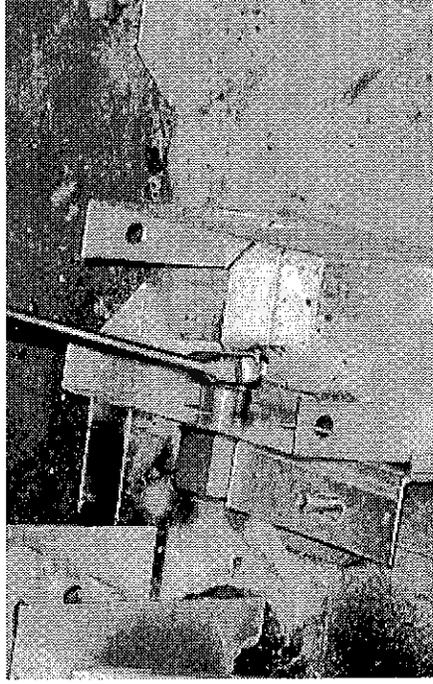

Figure 5.13 Burner Orifice
- Using a 3/8 in. wrench, remove and discard existing burner orifice. Replace orifice with correct size orifice from Table 2.1 and tighten. See Figure 5.13.